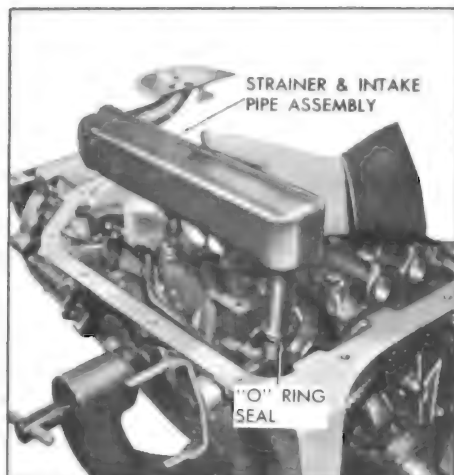

Figure 5-725
1. Install the case to intake pipe "O" seal ring on strainer and intake pipe assembly. See Figure 5-725.